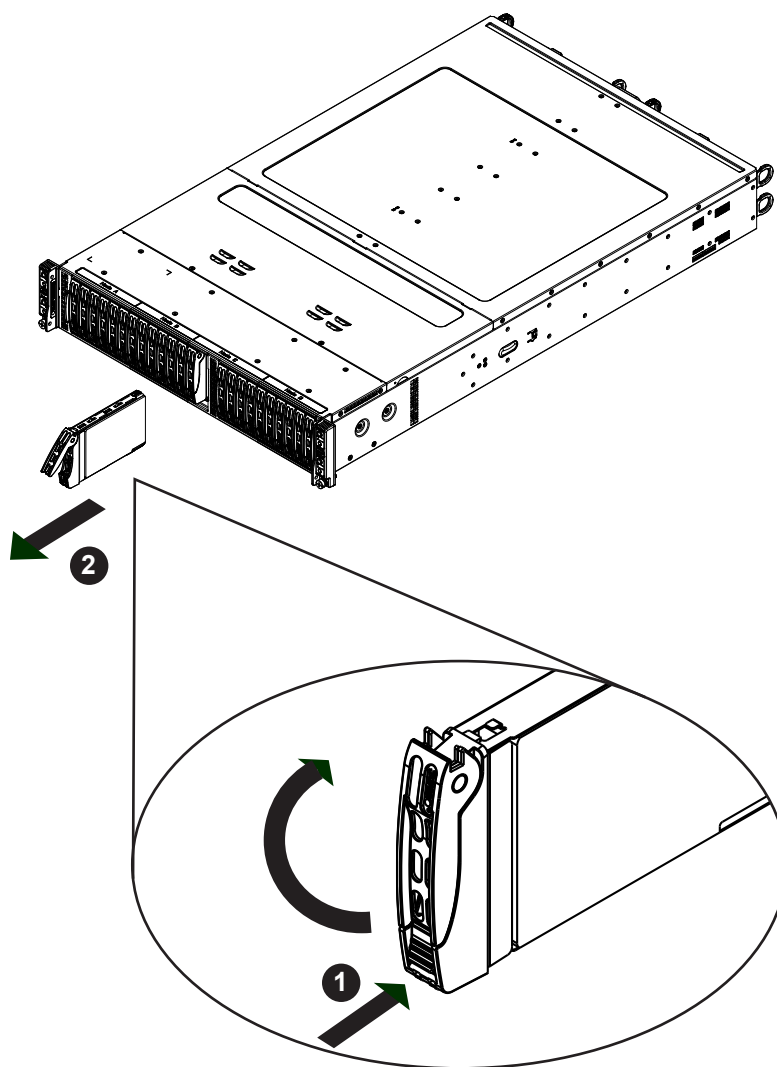

Figure 3-5. Removing a Drive Carrier
2. Use the handle to pull the carrier out of the chassis (Figure 3-5).